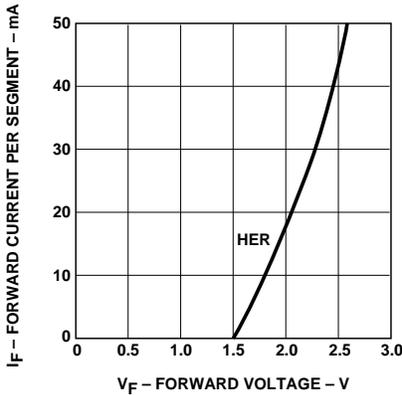

Figure 11. Forward Current vs. Forward Voltage.
7. See Figure 11 to establish pulsed conditions.